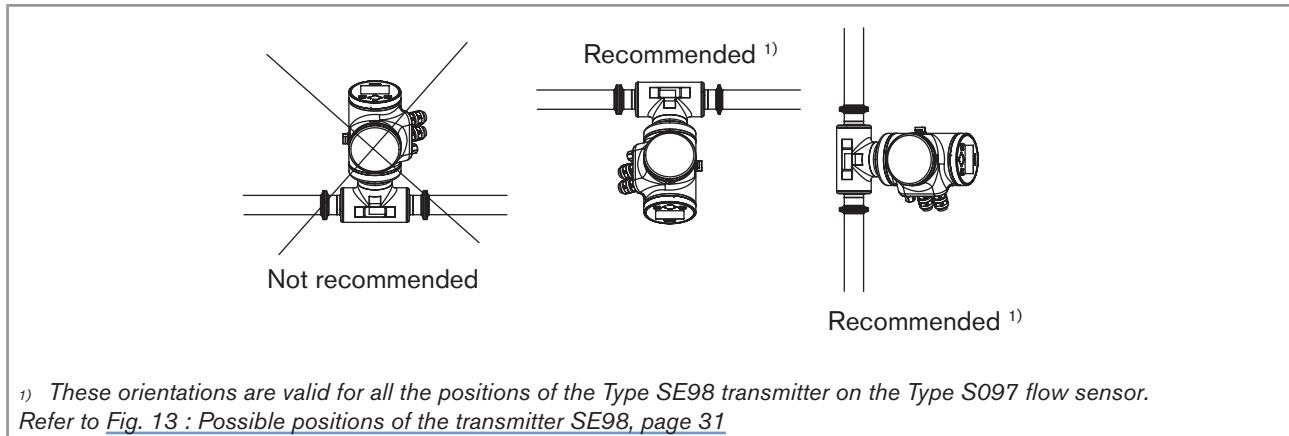

Fig. 16 : Orientation of a device with cable glands to avoid effects of high liquid temperatures
- To make sure the internal temperature of the transmitter with cable glands does not exceed the authorized maximum value, install the device as recommended in Fig. 16.